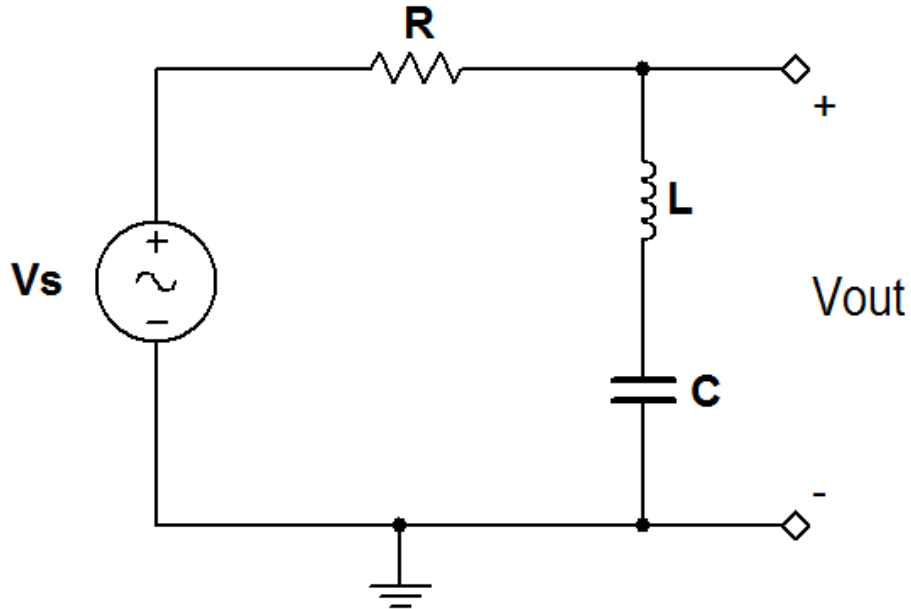

Figure 9.1: Circuit for Problem 9.1
Figure 9.1 on the next page shows a prototype bandreject filter with center frequency $\omega_0 = 1$ rad/s. The prototype component values are $R = 1 \Omega$, $L = 1.817$ H, and $C = 0.5505$ F.
1. Enter the circuit of Figure 9.1 on the following page using the scaled component values calculated earlier. Drive the filter input with an AC_VOLTAGE source with “AC Analysis Magnitude” set to 1 V.
1. Build the circuit of Figure 9.1 using the scaled component values calculated earlier. Drive the filter input with A00 strengthened by an op amp voltage follower. Monitor the filter input with A10 and the filter output with A11.
1. Plot the frequency response of the simulated and physical circuit of Figure 9.1 on the facing page using the scaled component values calculated earlier. Compare the two plots and discuss their similarities and differences.